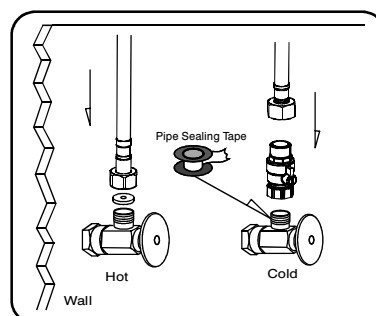

Figure 1
2. Connect flexible hose tails to water inlet, using Pipe Sealing Tape(Figure 1).